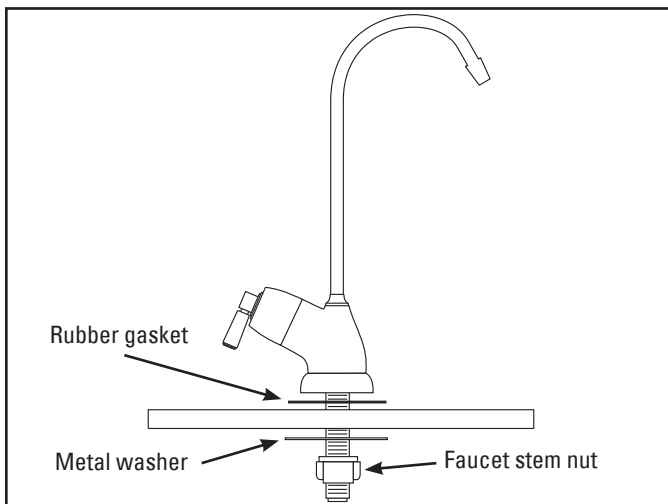

Figure 3
- Place black rubber gasket onto the stem of the faucet (Figure 3).